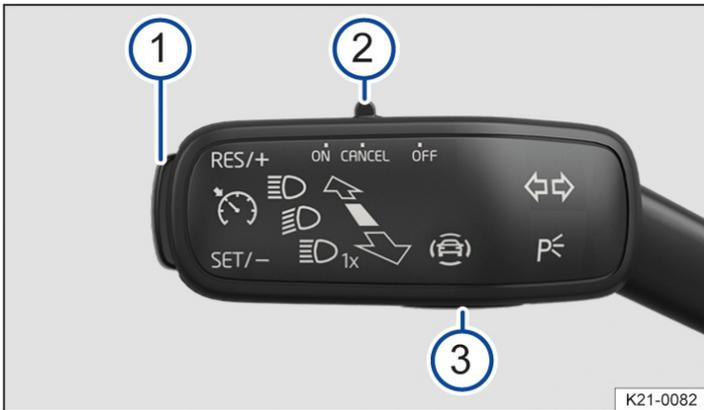

Fig. 1 On the left of the steering column: switches and buttons for operating the cruise control system.
1. Slide the → *fig. 1* **2** switch into the **ON** position.
1. While driving, press the → *fig. 1* **1** button into the **SET/-** position.
You can adjust the stored speed using the → *fig. 1* **1** button while the CCS is regulating the speed: